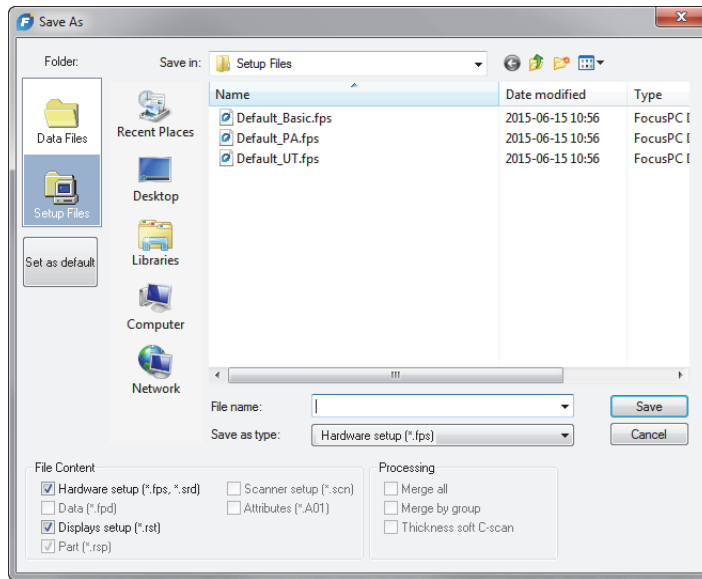

Figure 4-2 Save As dialog box
2. In the **Save As** dialog box that appears (Figure 4-2 on page 99), proceed as follows: